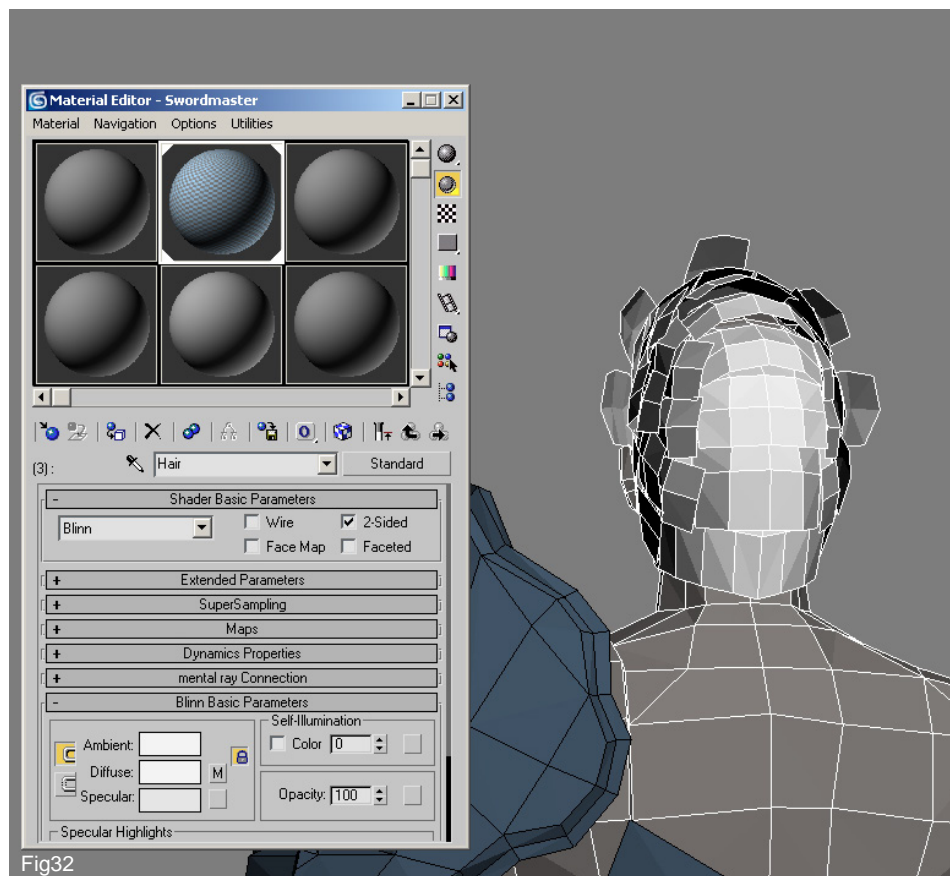

Fig32
32. Now select the hair material and check the 2 Sided tickbox as seen in Fig 32 under the Basic Parameters. This will enable the hair to be visible from both back and front and mean it will look thicker as we orientate around the character. You can see how the poly's are now also apparent from behind our character on the right of the picture. Now as you remember from earlier on in the tutorial we unwrapped each of the meshes that make up our character. Before we begin the texturing phase we need to arrange all of our pieces into a template that we will export as a wireframe and will represent our final texture layout. As there are so many elements they will not comfortably fit into one template and so we need to split them into two separate ones.